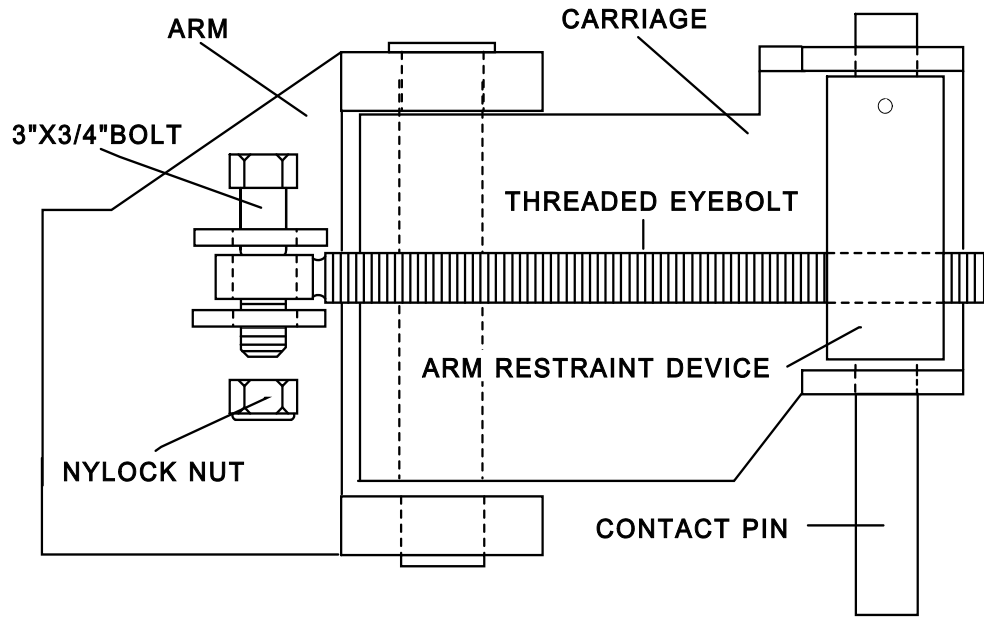

**FIG. 1**
1. Placement of lift should be at least 12' from nearest obstacle, front to rear, plus any desired aisle or work area between vehicle and obstacle such as garage door, work bench, etc. Place a chalk line at the selected location, erect both columns in their respective locations outside baseplate to baseplate and square to chalk line. The control column may be placed on either side. (See Fig. 1).
4. Confirm correct column placement dimension (See Fig. 1).